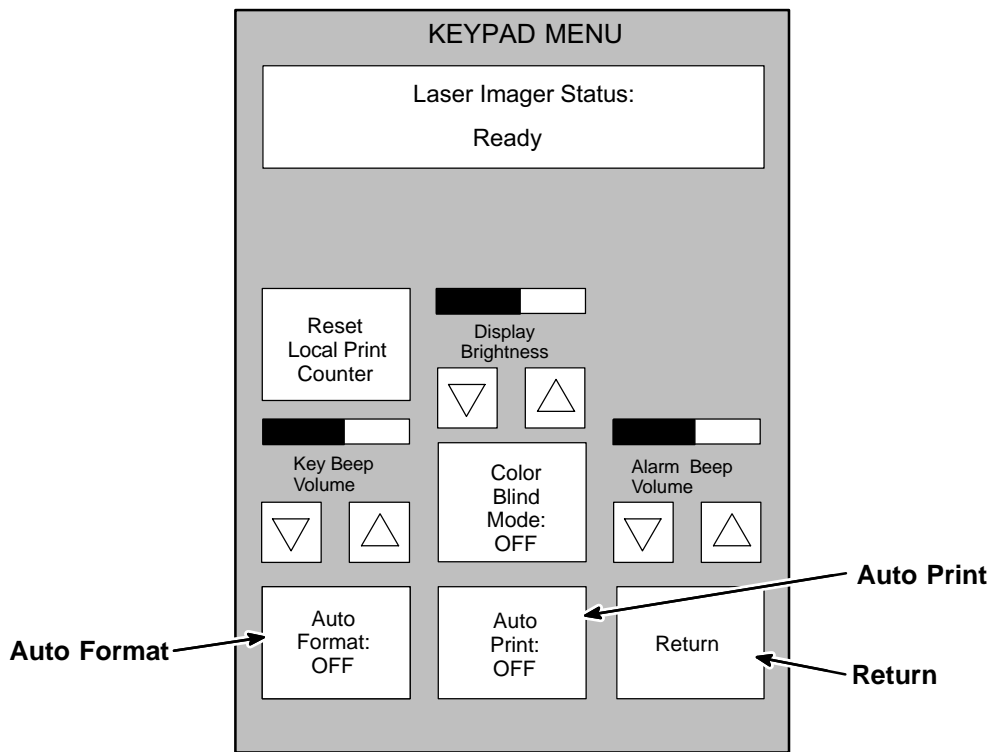

Figure 4-7. Selecting Auto Print or Auto Format
2. On the Keypad Menu (see Figure 4-7):